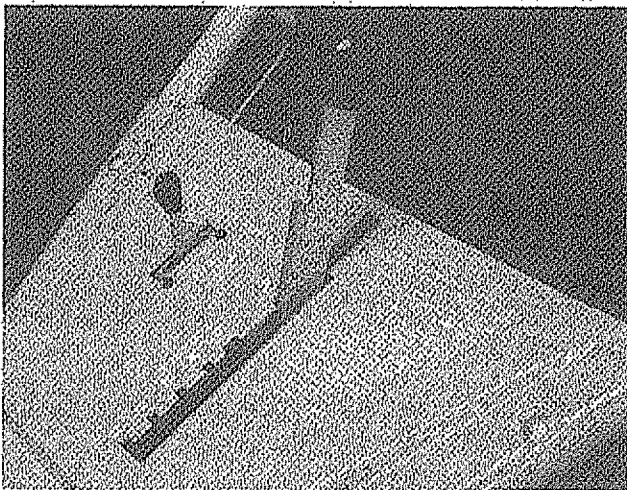

FIGURE 17.
- B. Use (1) first and (2) second gears when breaking the sod for the first time.
- C. Use (3) third and (4) fourth gears when tilling soil which has been tilled before.
- D. Use (5) fifth gear for pulverizing soil or for transporting the tiller.
- E. Neutral (N)—Move lever to detent marked "N." See figure 17.
1. Place the gear shift lever in neutral (N) position. See figure 17.